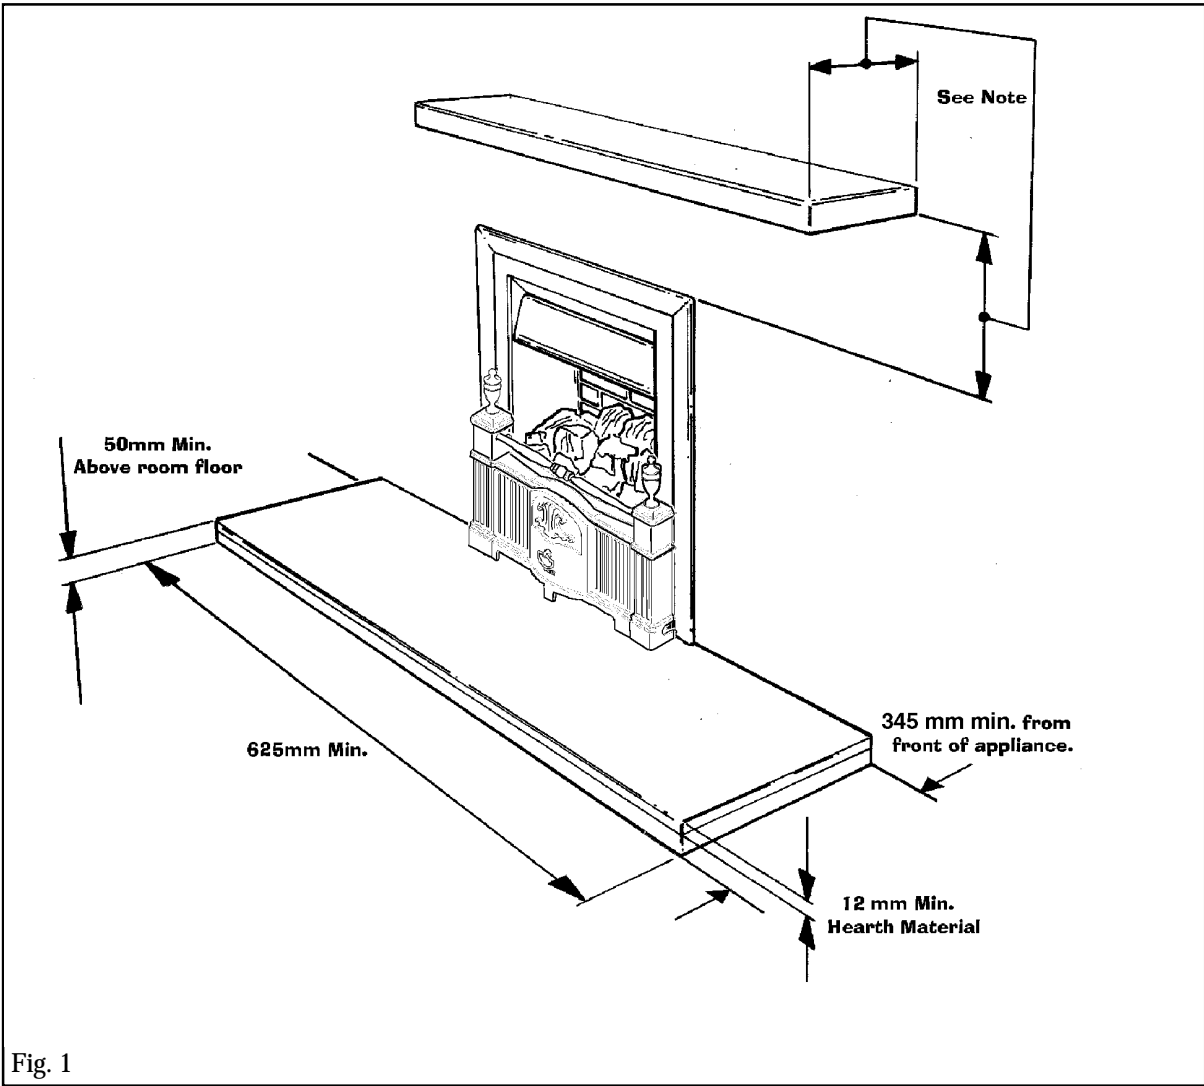

Fig. 1
- For a shelf deeper than 150mm, add 12.5mm to the clearance for every 25mm of additional shelf depth (see figure 1).
- Make sure that the fire is on a non-combustible hearth and that the hearth is at least the size shown in figure 1.